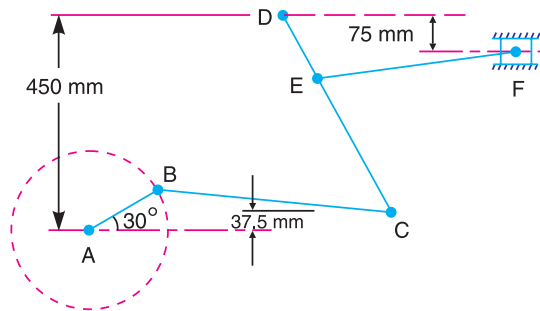

Fig. 7.34
4. In a link work, as shown in Fig. 7.34, the crank AB rotates about A at a uniform speed of 150 r.p.m. The lever DC oscillates about the fixed point D , being connected to AB by the connecting link BC . The block F moves, in horizontal guides being driven by the link EF , when the crank AB is at 30° . The dimensions of the various links are :